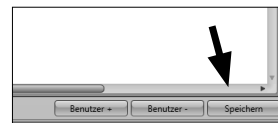

Fig. 3: User administration
- Click **Save** - the data is transferred (Fig. 3).